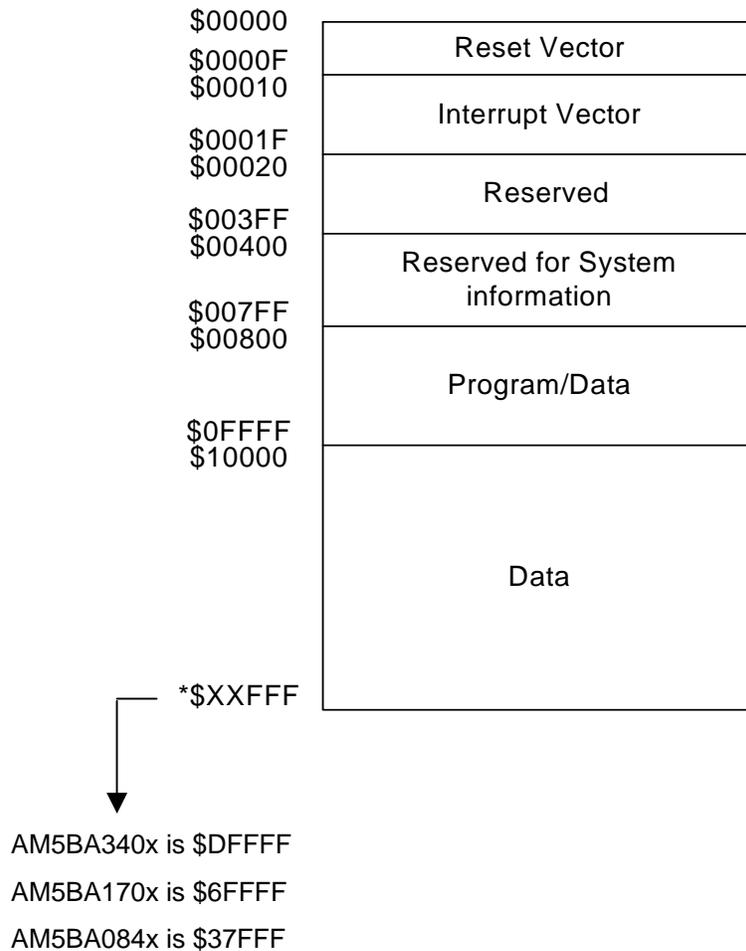

FIGURE 3.1 ROM Map of AM5BA Series
ROM memory is divided into six portions. The first portion 0x0 ~ 0xF is addressed for Reset Vector in normal mode. The second portion 0x10 ~ 0x1F is addressed for Interrupt Vector in normal mode. The third portion 0x20 ~ 0x3FF is reserved and not available for storing programs. The fourth portion 0x400 ~ 0x7FF is reserved for the system information. The fifth portion 0x800 ~ 0xFFFF is addressed for user's main program and voice data. The last portion 0x10000 ~ 0xFFFFF can be used to store voice data. Because JMP and CALL instructions can only reach an immediate address within a 16-bit wide page, the main program and ISR therefore can only be located in the 0x800 ~ 0xFFFF address range. In addition, except for Program Counter (PC), all pointers such as voice pointer (VPTR) and temporary register (TREG) can reach up to 0xFFFF. FIGURE 3.1 shows the ROM map.